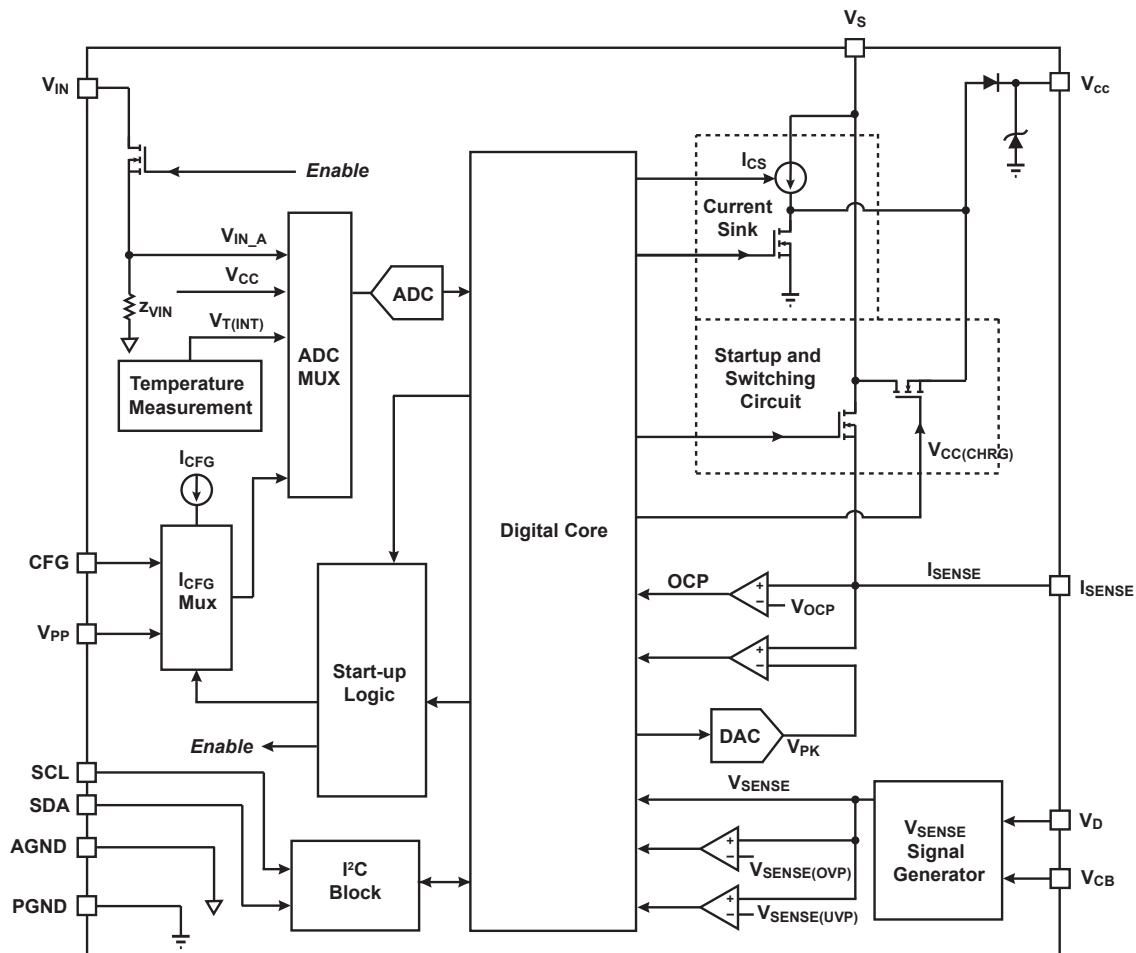

Figure 8.1 : iW3690 Functional Block Diagram
- Note 2. Refer to the voltage level at the V_{IN_A} point in Figure 8.1. The typical impedance between the V_{IN} pin and V_{IN_A} point is 500Ω .
- Note 4. Refer to Z_{VIN} in Figure 8.1.